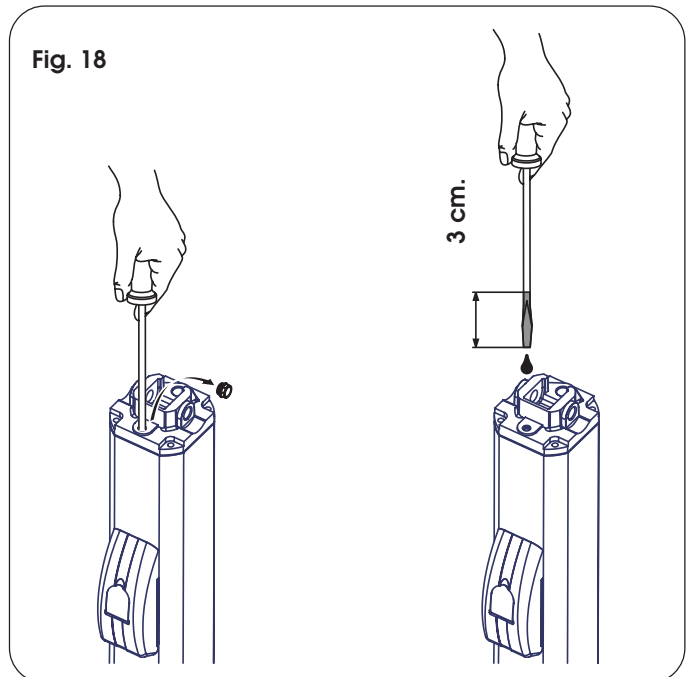

Fig. 18
- Insert a screwdriver until it comes into contact with the electric motor as shown in Fig. 18.
- Remove the screwdriver and check oil level as shown in Fig. 18.